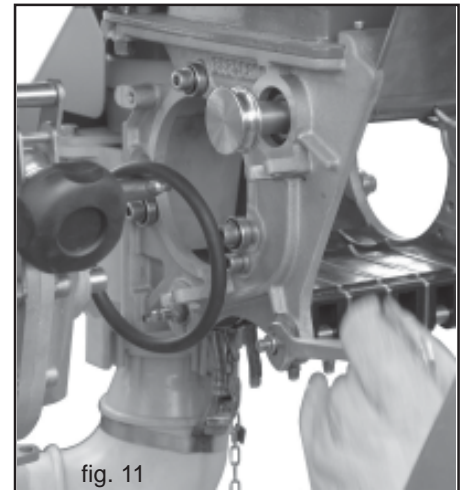

fig. 11
Guarantee of continuous feeding to the dosing rollers. The agitator can be disabled by simply removing the drive belt. To disable the agitator, lift the round belt above the edge of the drive pulley (Fig. 8) and, on the opposite side, rotate the dosing roller in the driving direction. The belt will come off (Fig. 11).
- 1) In order to disassemble the feeler unit, loosen the four nuts of the axles (front and back) (Fig. 11), using a 13 mm spanner ...